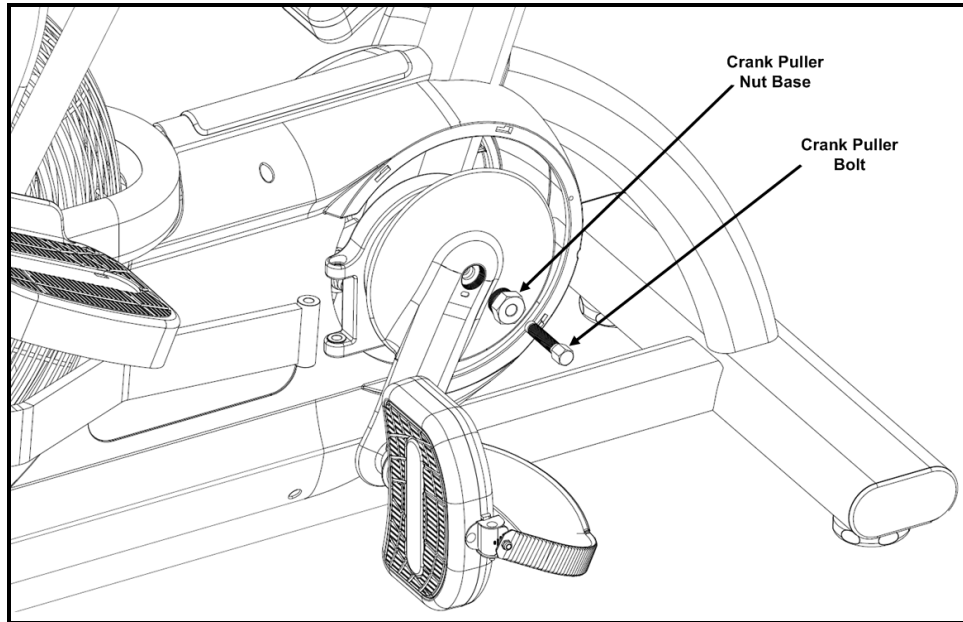

Fig. 4
4. Insert the crank removing tools base nut into each crank arm until the nut is fully seated in the female threaded crank bore (Fig. 4). Turn the crank puller's bolt in a clock-wise direction until each crank comes loose from the bottom bracket shaft.